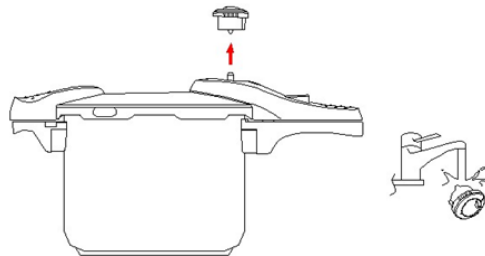

Figure 8
If for any reason no steam releases from the steam exit (under the pressure regulator valve), the safety / pressure indicator valve will be activated, and the accumulated steam will come out of this. (Figure 8)
- If the pressure regulator valve pipe is blocked, remove it for cleaning. To do this, you will have to turn in place "1". Now you can pull it up carefully. Rinse with water, dry it and reinsert it. (Figure 8)